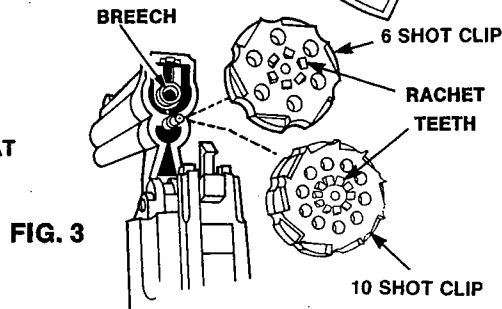

FIG. 3
- D. Replace Pellet Clip (ratchet teeth up) on Barrel, close Barrel, Fig. 3. Make sure the Barrel Latch has locked.